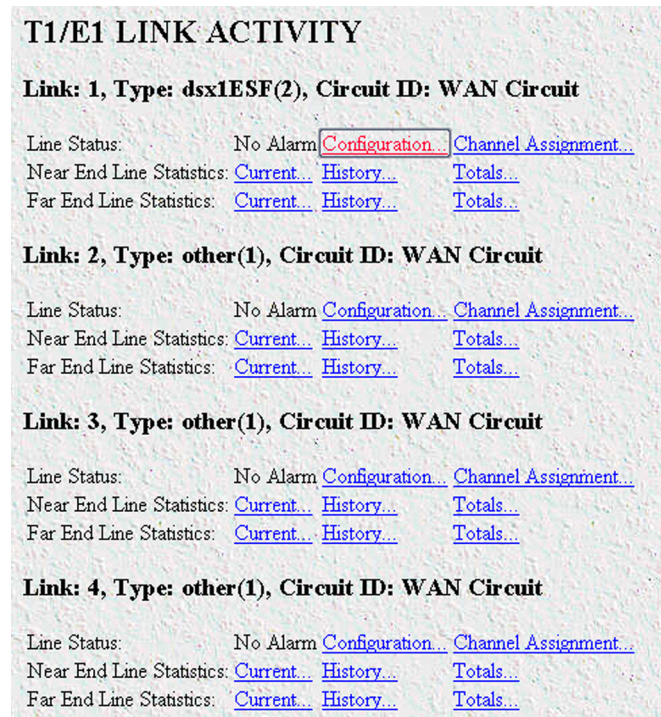

Figure 28. T1/E1 Link Activity window
1. Select T1/E1 Link on the Configuration Menu. The T1/E1 Link Activity window appears (see figure 28).
1. Select T1/E1 Link on the Configuration Menu. The T1/E1 Link Activity window appears (see figure 28 on page 41).